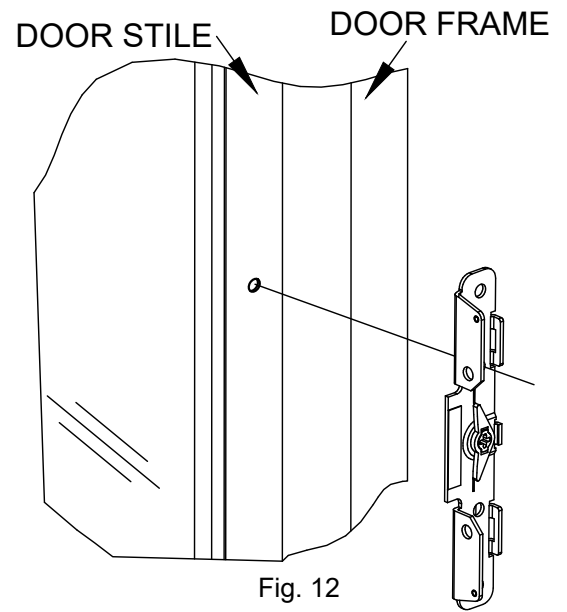

Fig. 12
- Place the back plate on outside of door and center it as shown on the pilot hole previously drilled. Align back plate vertically parallel to door stile. See Fig. 12.